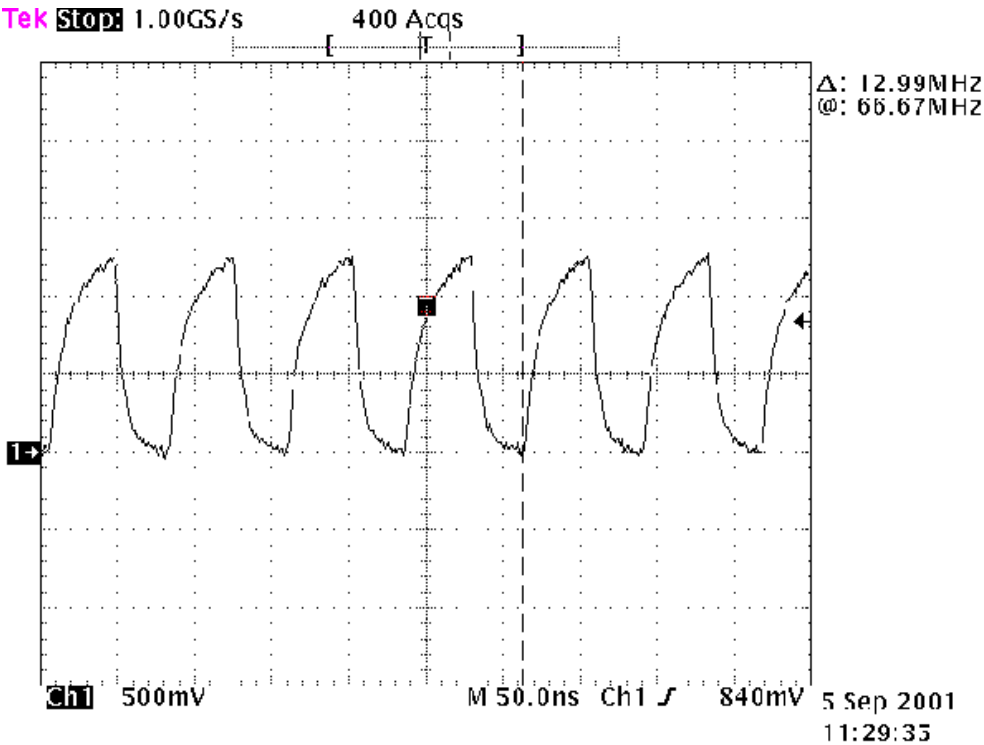

Figure 3-14. 13MHz Clock.
4. 13MHz (see Fig. 3-14)
4. 13 MHz (see Fig. 3-14)